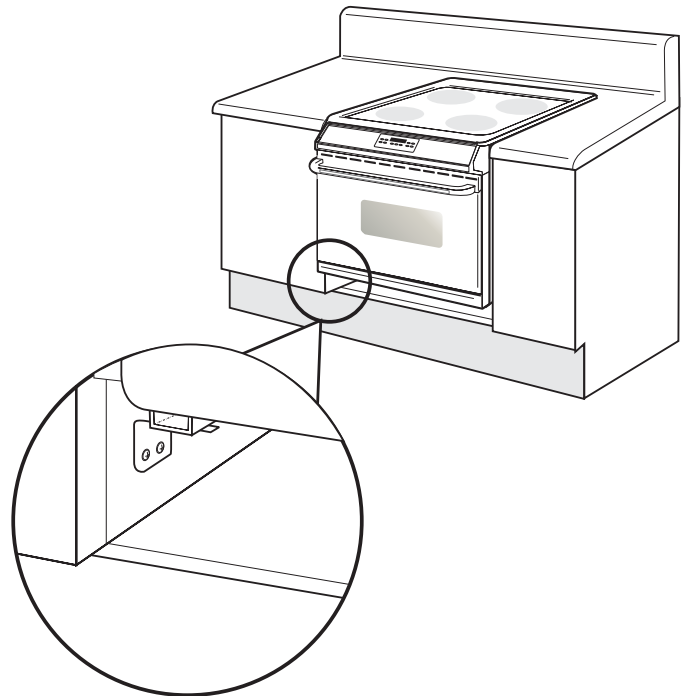

Figure 5
2. Anti-slide brackets Installation (Figure 5):